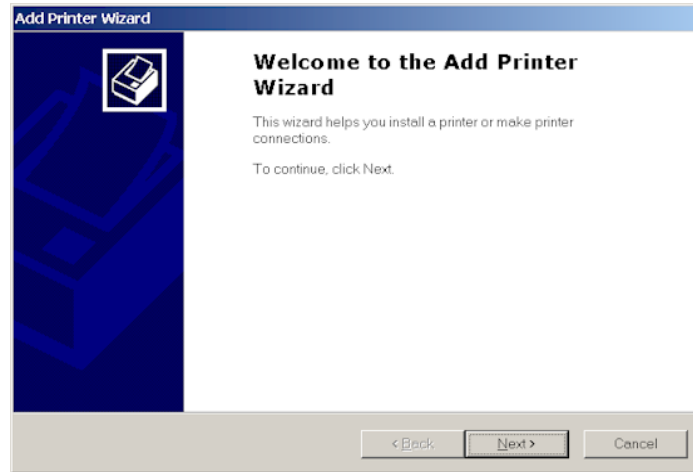

Figure 1, Add Printer Wizard
1. Select Start ⇒ Settings ⇒ Printers. Double click on the “**ADD PRINTER**” icon. The “**Welcome to the Add Printer Wizard**” will be displayed as shown in Figure 1. Click on <**NEXT**> to continue.